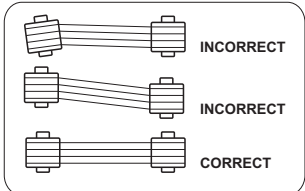

FIGURE 19
- Verify the tension of the belt (Figure 18) and the alignment (Figure 19) for models CSV 15 and CSV 20. The tension at the middle point yields 3/8" through 1/2" on manual force being or weight of 4,0 kg (1,8 lbs) applied at the mid-point. In order the check the deflection, remove the belt cover. After the inspection reassemble the protector, fixing the screws as per Table 4.
* Attention: See item 9, Chapter 5 - Safety Instruction.